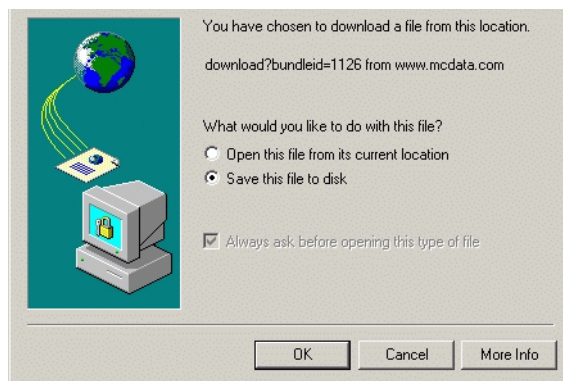

Figure 4-55 File Download Dialog Box
8. In the *Action* column adjacent to the approved request for the firmware version, click *Download*. The *File Download* dialog box displays (Figure 4-55).